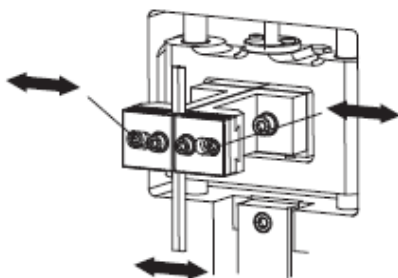

Fig 2a
- Sliding movement spacing by left and right holders, shown in Fig 2a.